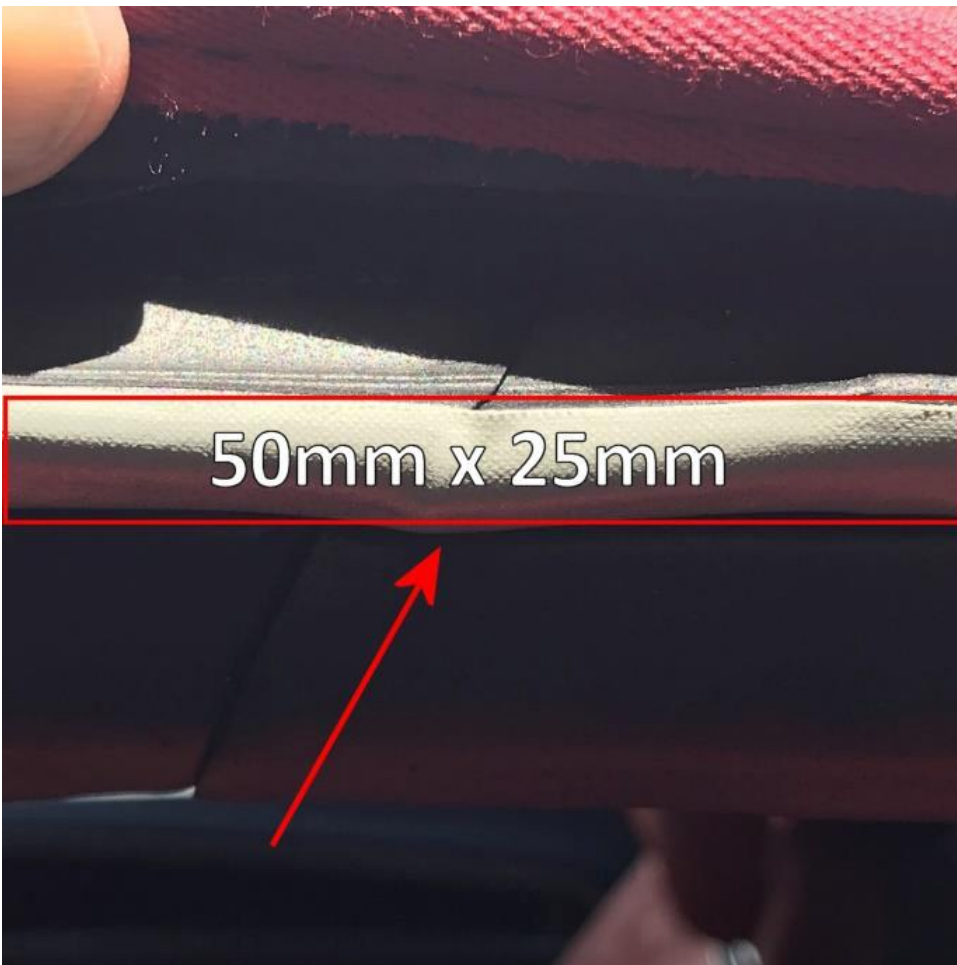

Figure 7
- Figure 7 shows the tape applied